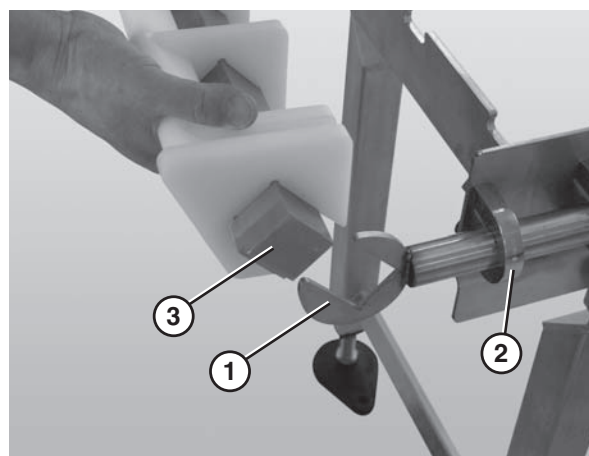

Figure 17
1. Slide the nose bar idler shaft hands (Figure 17, item 1) into the take up blocks (Figure 17, item 2).
2. Attach the nose bar transfer post (Figure 17, item 3) to the nose bar idler shaft hands.